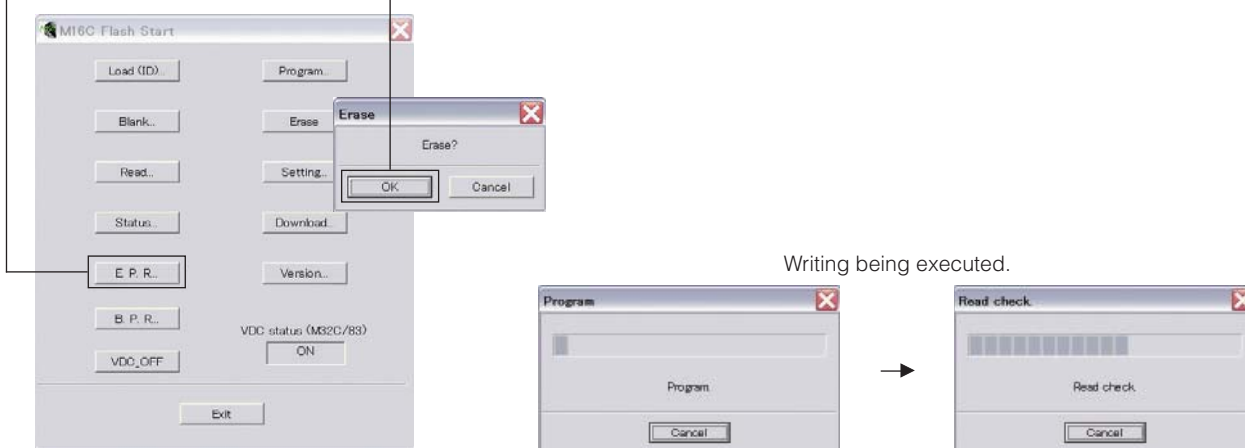

Fig. 4
6. Click [E.P.R.], the screen appears as shown below. (Fig. 4)
Click [OK] to start writing. (Fig. 4)